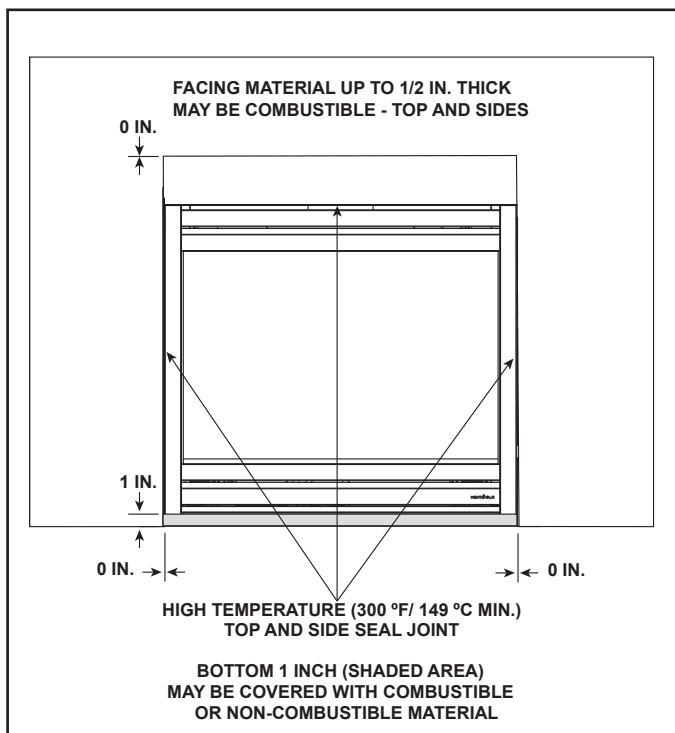
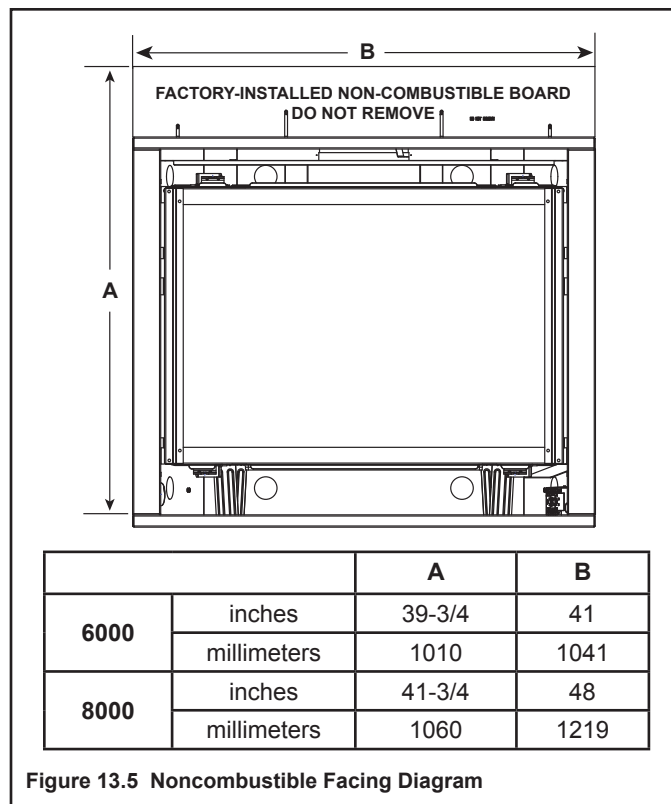

Figure 13.4 Facing Materials
Figure 13.5 Noncombustible Facing Diagram
- Seal joints between the finished wall and appliance top and sides using a 300°F minimum sealant. Refer to Figure 13.4 and Figure 13.5.